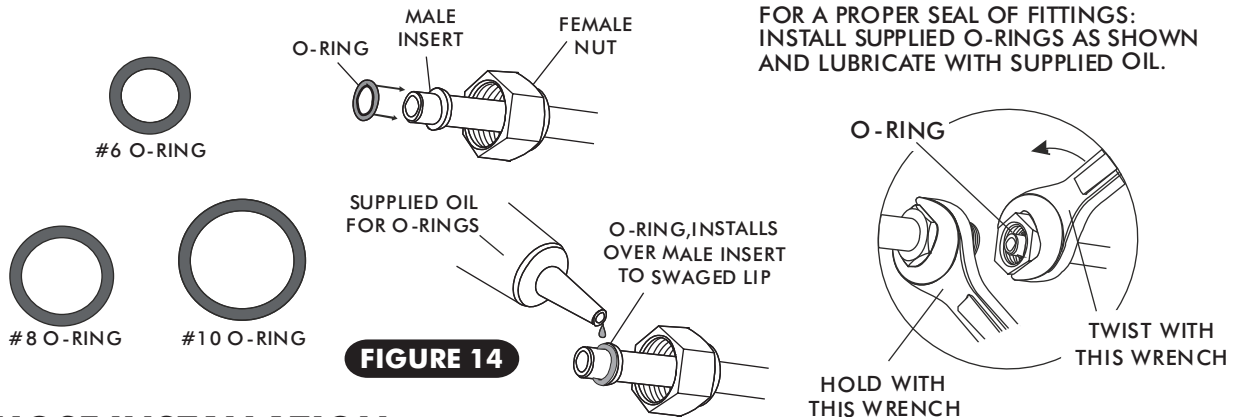
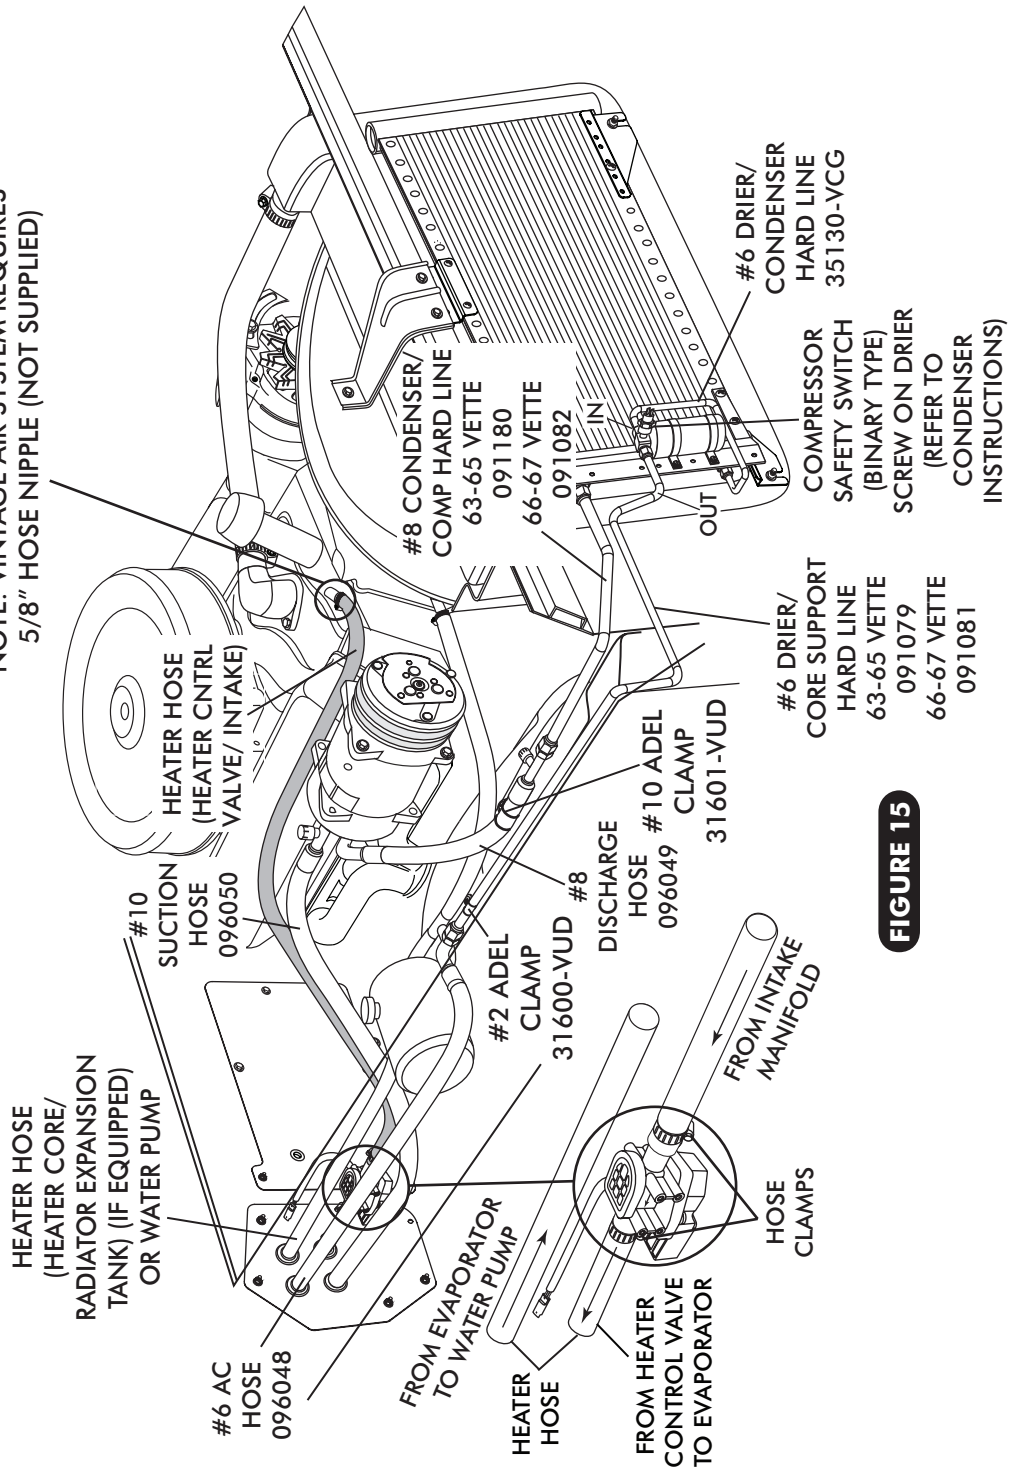

FIGURE 14
FIGURE 15
- ❑ ON A WORK BENCH INSTALL (2) HEATER FITTINGS WITH PROPERLY LUBRICATED O-RINGS. (SEE FIGURE 14, PAGE 14, AND FIGURE 8, PAGE 11.) FOR HEATER HOSE ROUTING SEE PAGE 12, 14 AND PAGE 15.
- LOCATE THE #8 COMPRESSOR A/C HOSE. LUBRICATE (2) #8 O-RINGS (SEE FIGURE 14, ABOVE) AND CONNECT THE 135° FEMALE FITTING TO THE #8 DISCHARGE PORT ON THE COMPRESSOR. ROUTE THE STRAIGHT FEMALE FITTING w/ 134a SERVICE PORT TO THE #8 CONDENSER HARDLINE COMING OVER CORE SUPPORT. SEE FIGURE 15 PAGE 15. TIGHTEN EACH FITTING CONNECTION AS SHOWN IN FIGURE 14 ABOVE.
- LOCATE THE #10 COMPRESSOR A/C HOSE. LUBRICATE (2) #10 O-RINGS (SEE FIGURE 14, ABOVE) AND CONNECT THE #10 STRAIGHT FEMALE FITTING w/134a SERVICE PORT TO THE #10 SUCTION PORT ON THE COMPRESSOR. ROUTE THE 90° FEMALE FITTING TO THE #10 EVAPORATOR. SEE FIGURE 10, PAGE 12 AND FIGURE 15, PAGE 15. TIGHTEN EACH FITTING CONNECTION AS SHOWN IN 14 ABOVE.
- LOCATE THE #6 EVAPORATOR A/C HOSE. LUBRICATE (2) #6 O-RINGS (SEE FIGURE 14, ABOVE) AND CONNECT THE 90° FEMALE FITTING TO THE DRIER HARDLINE. ROUTE THE 90° FEMALE FITTING TO THE #6 EVAPORATOR. SEE FIGURE 9, PAGE 12 AND FIGURE 15, PAGE 15. TIGHTEN EACH FITTING CONNECTION AS SHOWN IN FIGURE 14, ABOVE.
- ROUTE A HEATER HOSE FROM THE RADIATOR EXPANSION TANK (IF EQUIPPED) OR WATER PUMP TO THE TOP HEATER FITTING OF HEATER CORE AS SHOWN IN FIGURE 9, PAGE 12 AND FIGURE 15 BELOW. SECURE USING HOSE CLAMPS. **NOTE: OEM RADIATOR EXPANSION TANK OUTLET IS 3/4". (OPTION 1) USE GATES HEATER HOSE PART # 18084 3/4" x 5/8" x 60" (REFER TO PAGE 12) FOR HEATER HOSE MODIFICATION. (OPTION 2) 3/4" x 5/8" REDUCER FITTING IS REQUIRED (NOT SUPPLIED)**
- ROUTE A HEATER HOSE FROM THE INTAKE TO THE BOTTOM HEATER FITTING OF HEATER CORE AS SHOWN IN FIGURE 9, PAGE 12 AND FIGURE 15, BELOW. INSTALL HEATER CONTROL VALVE IN-LINE WITH INTAKE MANIFOLD (PRESSURE SIDE) HEATER HOSE, SECURE USING HOSE CLAMPS AS SHOWN IN FIGURE 15, BELOW. **NOTE PROPER FLOW DIRECTION.**